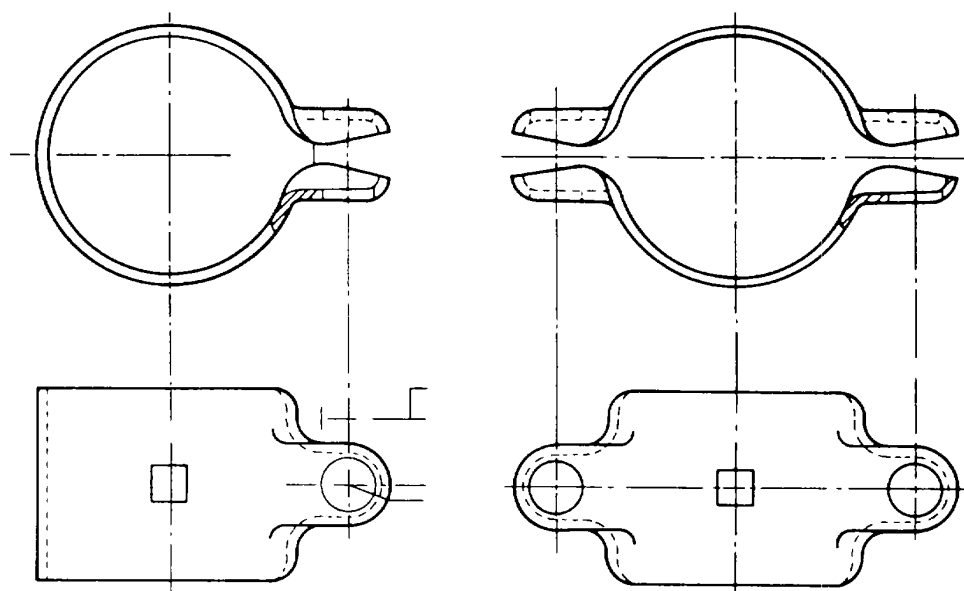

Figure 2-44. Tube Clamps
(3) *Tube clamp.* A tube clamp, as shown in figure 2-44, is a one-or two-piece clamp used with tube-to-tube connections or tube-to-duct connections.